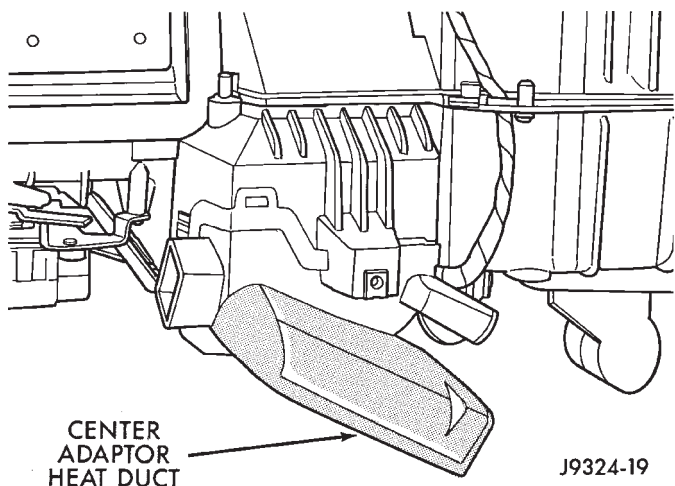

Fig. 24 Center Adaptor Heat Duct
(4) Disconnect the electrical connector or the vacuum line.
(5) Remove the retaining screws holding the two halves together. Remove the center adaptor heat duct (Fig. 24) and remove the screw.